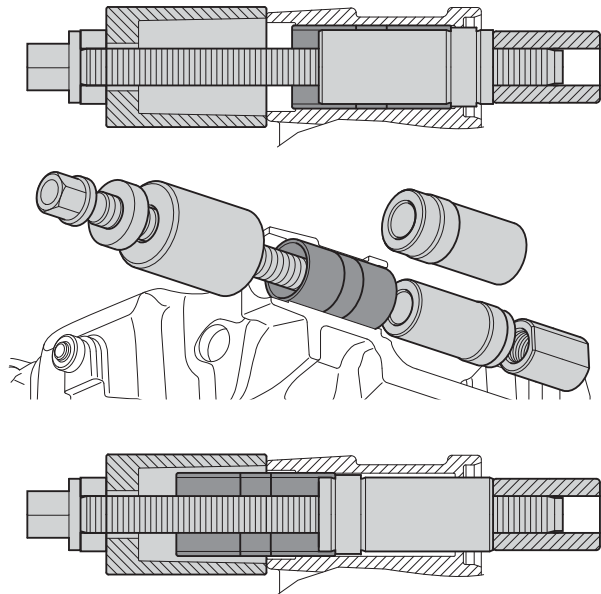

Figure 55. Remove the leading slide bearing
8. To remove the two bearings (F) and the spacer (G) on the leading side, assemble in sequence Haldex special tool P/N's 95230, 95423, 95222, 95219 and 95220, as shown in figure 55.
9. Once fitted correctly, turn the threaded tool clockwise which will pull out the two bearings (F) and the spacer (G).